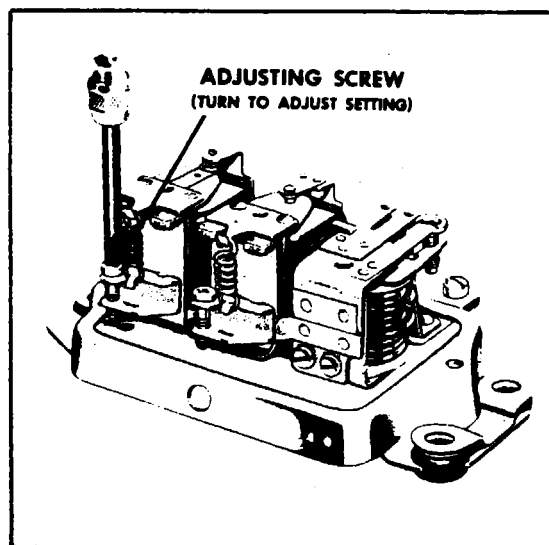

Figure 11-9. Adjusting Voltage Regulator Setting
(h) To adjust voltage setting, turn adjusting screw. (Refer to Figure 11-9.) Turn clockwise to increase setting and counterclockwise to decrease setting.
(e) Adjust in same manner as described for voltage regulator. (Refer to Figure 11-9.)
- (e) Adjust in same manner as described for the voltage regulator. (Refer to Figure 11-9.)